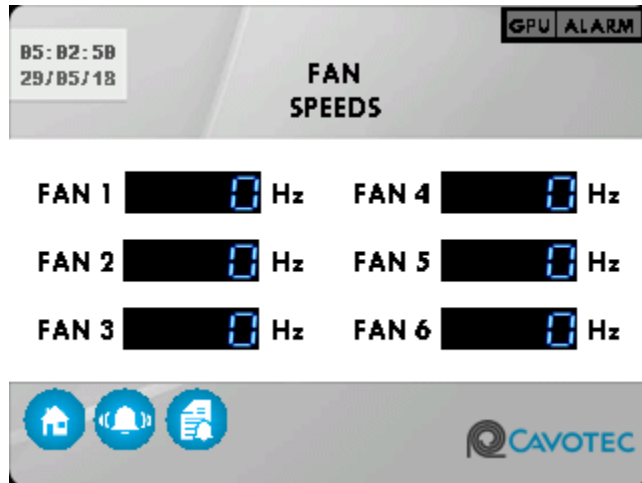

Figure 2-4. Fan Speeds Screen
- On the FAN SPEEDS screen shown in Figure 2-4, ensure that each fan is running between 170 Hz and 185 Hz. If any fans are running at an unacceptable speed, replace the fan.